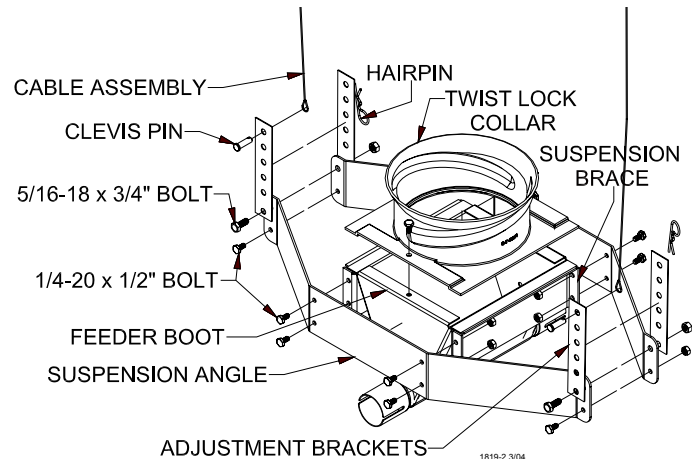

Figure 18.
3. Assemble suspension angles and suspension braces around feeder line boot (single or twin), using 1/4-20 x 1/2" Hex bolts and nuts (supplied in hardware package). **See Figure 18.**
4. Assemble the twist lock collar to the top of the feeder line boot (single or twin) using 1/4-20 x 1/2" bolts and lock nuts (supplied in hardware package). **See Figure 18**
6. Two cable assemblies (cable with a sleeve clamp and a 5/32 thimble) are supplied with the suspension kit to support the hopper. Attach the cable assemblies to the adjustment brackets using the top holes of the adjustment brackets. **See Figure 18.**